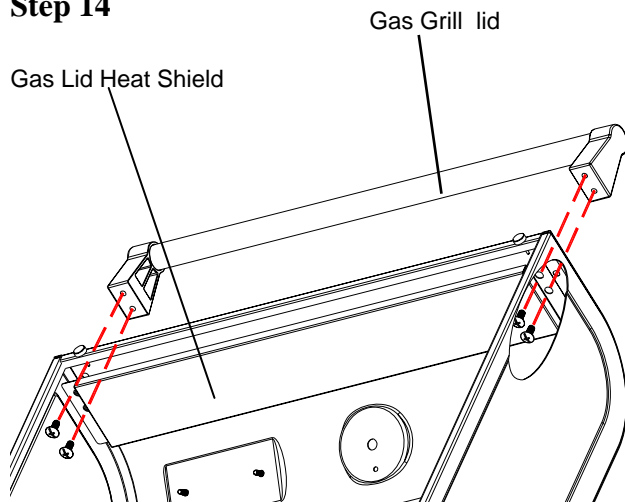

Fig. 14
*Locate:* Gas Lid, (2) Handle Stand-offs, (1) Long Handle Tube, (4) M6x15 bolts and Gas Lid Heat Shield
*Procedure:* Refer to Fig. 14. Open the Gas Grill Lid and fit the Heat Shield in place inside the lid over the (4) holes for attaching the Handle. Place (2) M6x15 bolts through the Heat Shield and then the Lid holes on one side of the Lid. Fit a Handle Stand-off over the bolts and attach the Stand-off to the Lid. Fit the long Handle Tube into both Stand-offs and then repeat the procedure of inserting the screws through the Heat Shield, the Lid and into the other Stand-off. Tighten all (4) bolts securely.